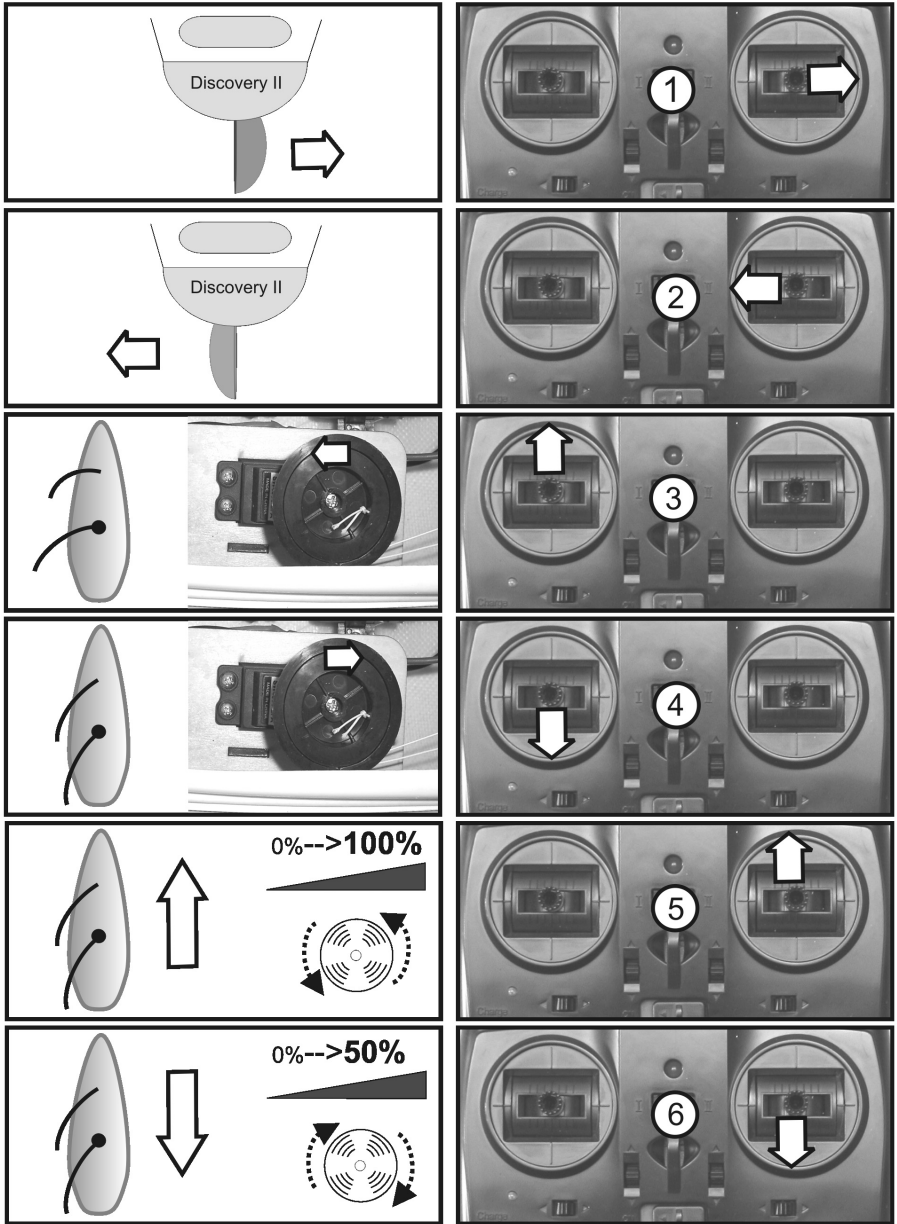

Figure 13
Check the rudder linkage. Operate the control lever for the steering (see figure 13 on the next page, item 1 and 2). Steering to the left must cause the rudder (viewed from behind in driving direction) to swivel to the left as well. If this is not the case, you need to select the steering servo reverse function at the transmitter (see operating instructions of the remote control). If the steering lever for the steering function at the transmitter as well as the trimming for it are in the neutral position, the rudder must be placed centrally. Otherwise, the trimming at the transmitter must be adjusted accordingly (see operating instructions of the remote control). Alternatively, or if transmitter trimming is no longer sufficient, you need to readjust the linkage with the steering lever in the neutral position and neutral trimming by loosening the screws at the rudder linkage lever (figure 3, item 4).
Check the function of the sail winch. The control lever of the transmitter (figure 13, item 3 and 4) can be set to smoothly adjust the angle of attack of the sails. If you move the lever forward (away from the body), the sail winch must turn counter-clockwise (to the left). In this case, the control ropes of the mainsail and head sail are „extended“ and the possible angle of attack of the sails enlarged. If the rope is not running counter-clockwise in this test, you need to operate the reverse function for the rope winch at your transmitter. For this, observe the operating instructions of the remote control system.
Check the function of the motor. The control lever of the transmitter (figure 13, item 5 and 6) can be set to smoothly adjust the motor speed. If you push the lever forward (away from the body), the ship's propeller has to move counter-clockwise (to the left) when viewed in driving direction, and turn at 100% motor output (high speed control). If the ship propeller is not running counter-clockwise or not at full speed in this test, you need to operate the reverse function for the motor control at your transmitter. For this, observe the operating instructions of the remote control system.